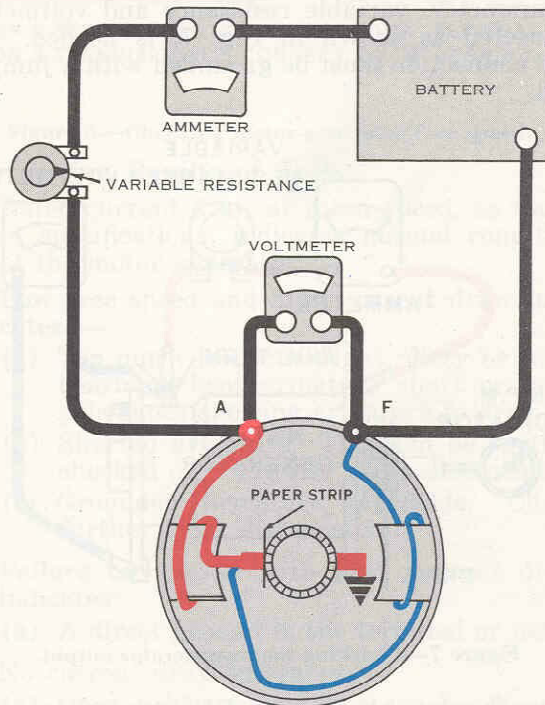

Figure 10—Check for shorted field coils. On three terminal motor-generators, connect from “F” to “M” terminal.
3. If the field is not open, check for a short circuit in the field (Fig. 10) by connecting a battery and an ammeter in series with the field circuit. Proceed with care, since a shorted field may draw excessive current which might damage the ammeter. If the field coil current draw is not within specification for the specified voltage, new field coils will be required.